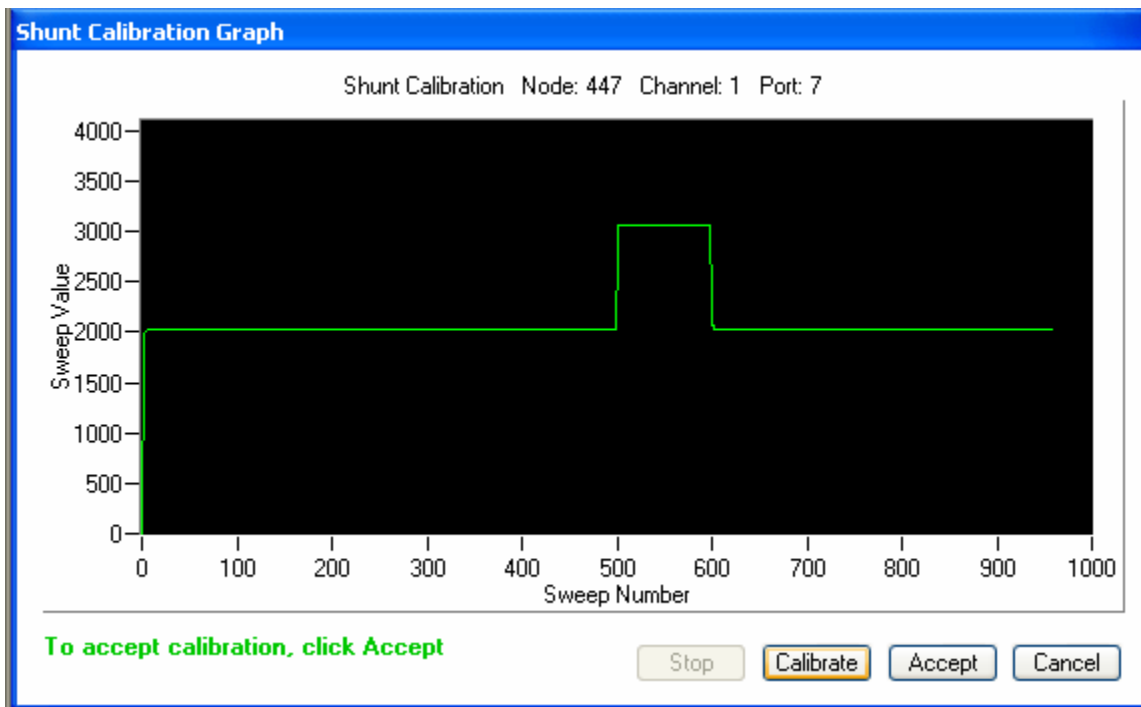

Figure 6
- The resultant graph will appear as exemplified in **Figure 6** and a message “To accept calibration, click Accept” will appear.